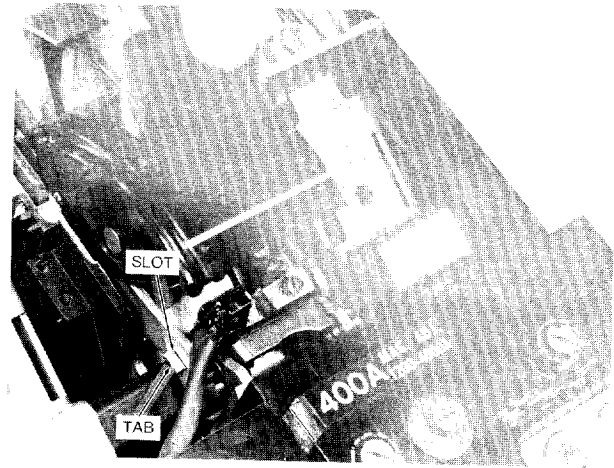

Figure 4
3. Hold the breaker handle toward ON (*breaker tripped*), and insert the bell alarm tab into the slot of the breaker mechanism frame (Figure 4).